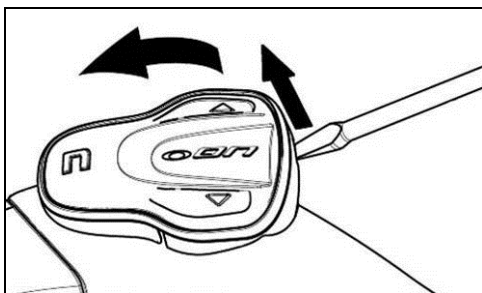

Fig. 20
- Remove the keypad from the shell, as indicated in fig. 20.